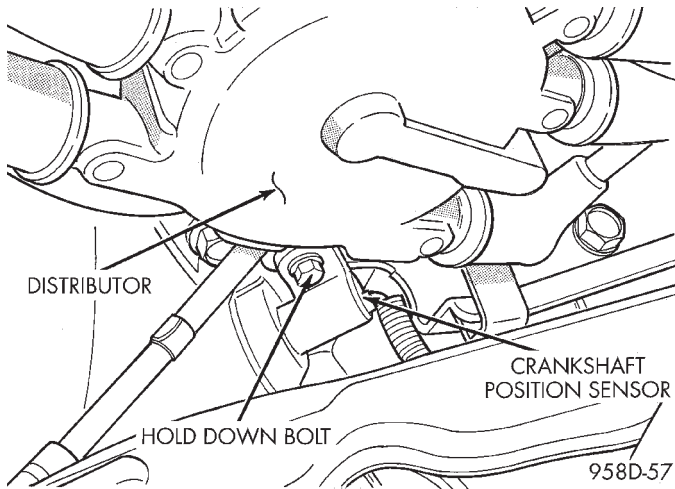

Fig. 46 Crankshaft Position Sensor
- (1) Remove speed control servo from driver's side strut tower.
- (2) Remove crankshaft position sensor retaining bolt (Fig. 46).